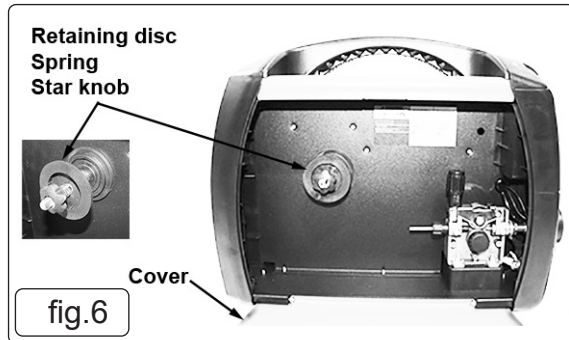

fig.6
- 5.5.1. Open the wire feed compartment cover and unscrew and remove the star knob, spring and retaining disc (fig.6) and place to one side.